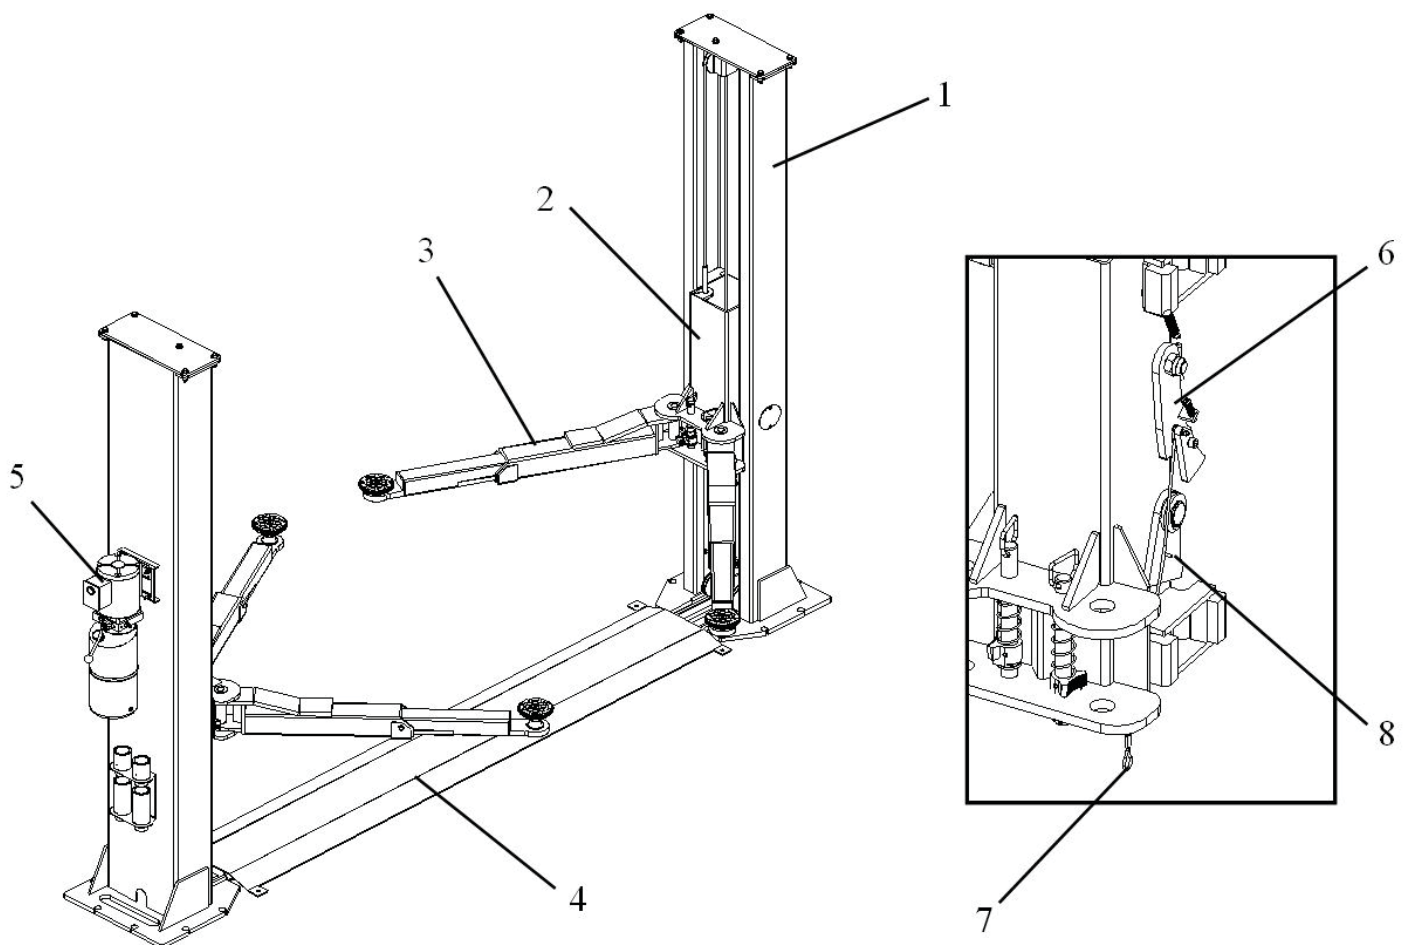

Figure 2 – Lift
Lift Description (Ref. Figure 2)
As shown in figure 2, the lift is composed of two columns (1), each equipped with a carriage (2) and a pair of lifting arms (3), anchored to the ground by means of base plates of columns.